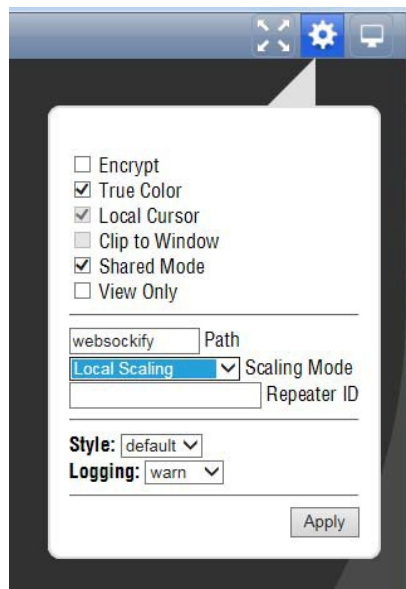

Figure 23: Settings menu with Local Scaling selected
4. In the Control bar, select the Settings icon () to open the Settings menu. (See Figure 23.)